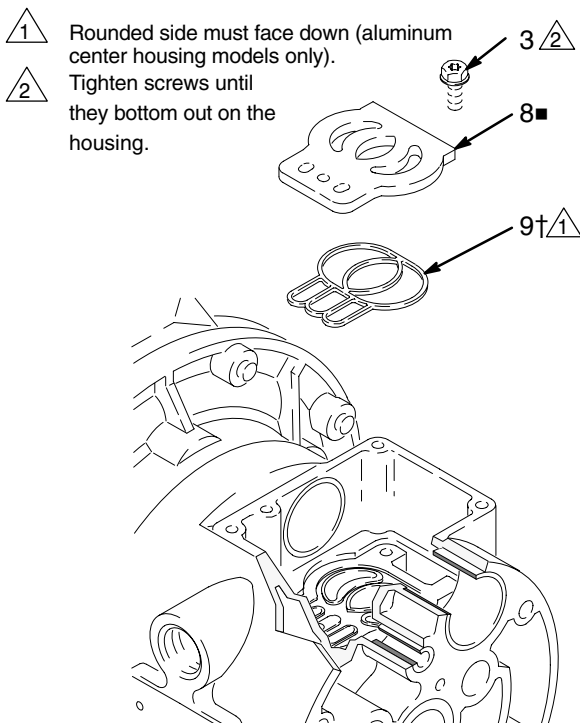

Fig. 10
5. Inspect the valve plate (8) in place. If damaged, use a Torx (T20) screwdriver or 7 mm (9/32") socket wrench to remove the three screws (3). Remove the valve plate (8) and, on aluminum center housing models only, remove the seal (9). See Fig. 10.
2. On aluminum center housing models, install the valve plate seal (9†) into the groove at the bottom of the valve cavity. The rounded side of the seal **must face down** into the groove. See Fig. 10.
3. Install the valve plate (8■) in the cavity. On aluminum center housing models, the plate is reversible, so either side can face up. Install the three screws (3), using a Torx (T20) screwdriver or 7 mm (9/32") socket wrench. Tighten until the screws bottom out on the housing. See Fig. 10.